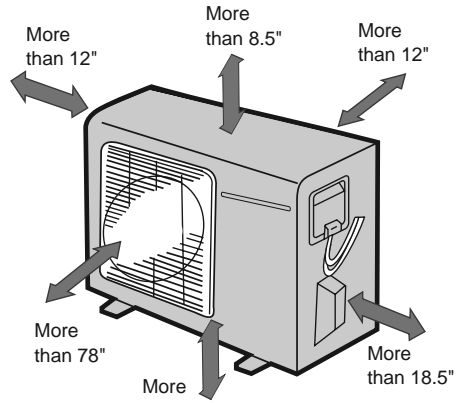

Figure 1.2
4. The site must provide enough space around the unit, as shown in figure 1.2.